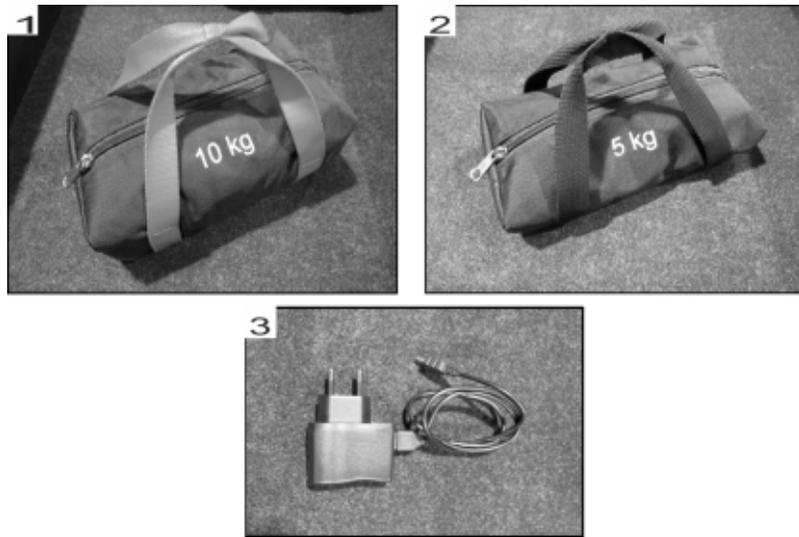

Figure 5
- ⇒ **Figure 5 -1-** – Weight bag 10 kg/ 22 lbs
- ⇒ **Figure 5 -2-** – Weight bag 5 kg/ 11 lbs
- ⇒ **Figure 5 -3-** – Mini-USB charging cable for steering wheel scale